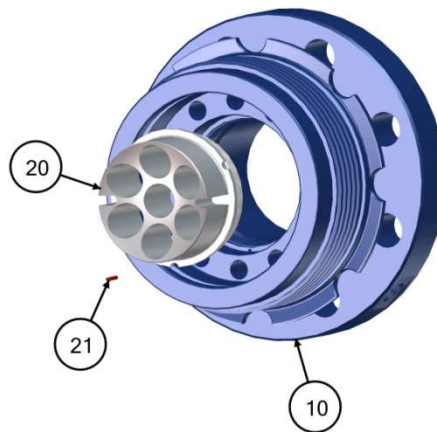

FIGURE 19
- 1) Set the tailpiece (10) (**FIGURE 19**) on the flange end.
- 3) Screw the pig stopper (20) into the flange until it "bottoms out".
- 4) Drill a $\varnothing 1/8"$ x $1/2"$ deep hole into tailpiece (10), located at one of the scallops in the pig stopper.
- 5) Install $\varnothing 1/8"$ x $1/2"$ long split pin (21) into the hole until the end is flush with the flange of the pig stopper.